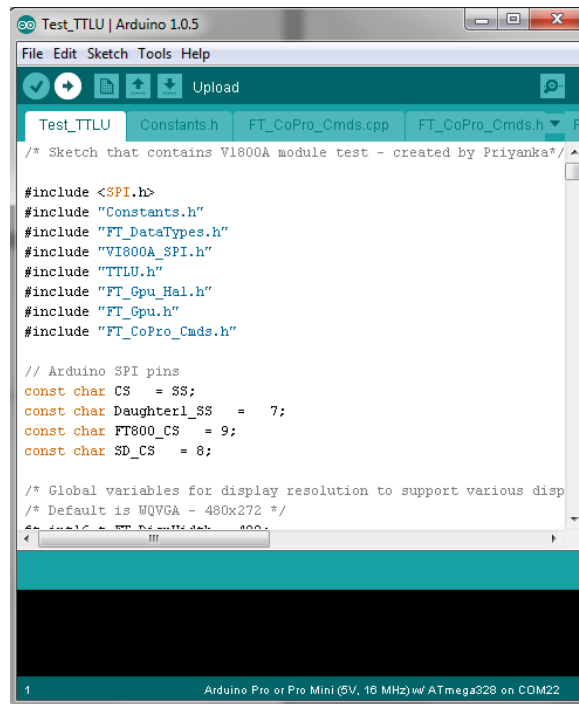

Figure 4-3 Click Upload Button
- Click the Upload button as shown in Fig 4.3. This will upload the FT801 sample to the VM801P.